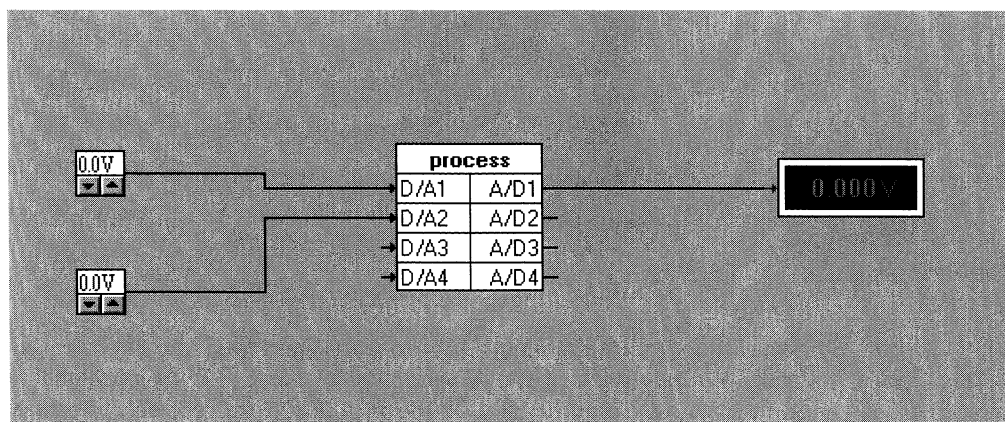

Figure 50 Process Block Channels Connected
- 4) Use the tools of the CE2000 software to connect the channels of the Process Block to other blocks of the software. Figure 50 shows an example of two DC voltage level blocks connected to channels D/A1 and D/A2. A digital volt meter block is connected to channel A/D1.